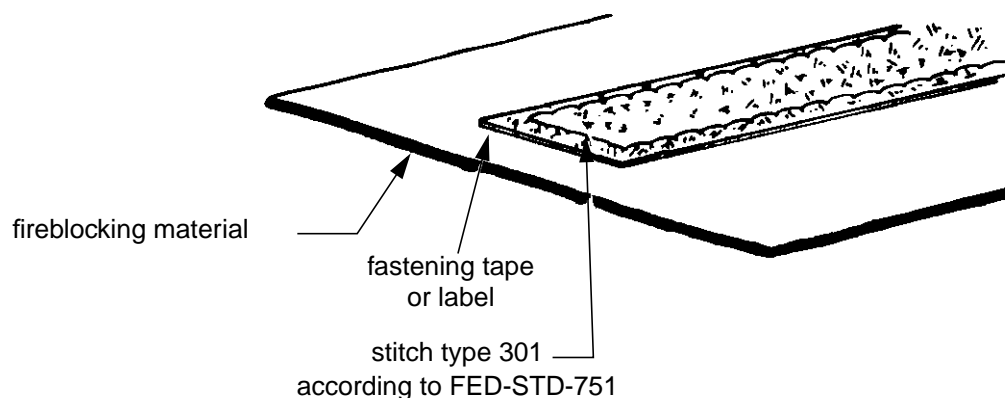

FIGURE 2 - STITCHING OF FASTENING TAPES OR LABELS
- Step 1. Position the fastening tape or label on the fireblocking material according to the engineering drawing (see Figure 2).